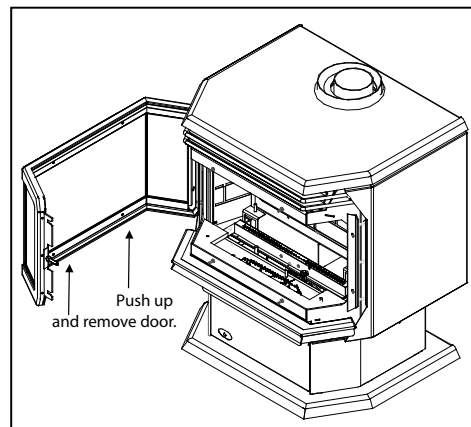

Figure 40: Removing the Door.
3. If the door must be removed open the door and lift the door pins out of the hinges (see figure 40).